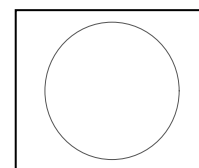

Figure 1
- 2.5 If you have a shaft as in **Figure 1**, you **Must File Two (2) Flat Spots** for the **Set Screws to Set On** or the **Set Screws Will Damage the Shaft** and you will not be able to remove the **R127 3 Jaw Chuck Right Hand**. Slide the **R127 3 Jaw Chuck Right Hand** onto the shaft and gently tighten the **Set Screws** to make marks on the shaft. File flats on the shaft where the **Set Screws** made the marks.